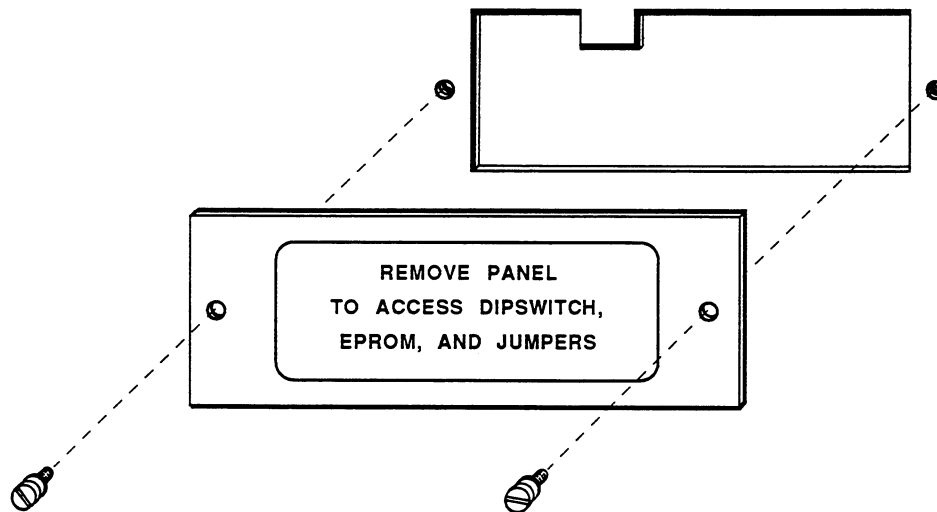

Figure 2-2. Removing the Cover Plate
2. Remove the cover plate from the back panel of the 2000 by loosening the two screws as shown in Figure 2-2 below. Save all screws and washers.